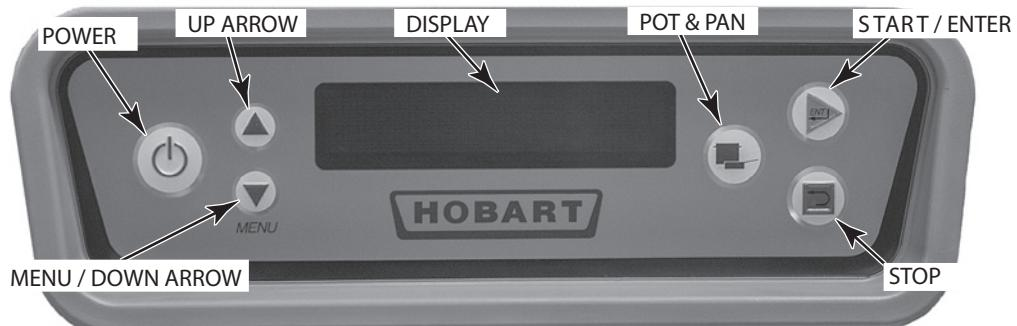

Fig. 26
The controls are mounted on top of the dishwasher. The Keypad and Display are mounted in front of the control box (Fig. 26).
Close all doors. To begin filling after the machine is ready, press the POWER key (Fig. 26).
5. Press the POWER key on the keypad (Fig. 26). Dishwasher will fill automatically (refer to Filling the Dishwasher, this page). After the tank has filled, the burner will ignite if heat is required. The ignition system includes a 15-second pre-purge period before ignition occurs.
6. If the dishwasher will not operate, press the POWER key on the keypad (Fig. 26) and turn the manual gas valve Off. Call your local Hobart service office or gas supplier.
After the machine has filled, start the pumps by pushing the START / ENTER key on the keypad (Fig. 26) or by inserting a rack into the machine.
The conveyor dwell feature, standard, allows the operator to stop the conveyor in order to wash heavily soiled dishes for a longer time. Press the DOWN ARROW located on the keypad (Fig. 26) until the '<' symbol is shown to the left of 'CONVEYOR DWELL'. When the dish rack reaches the wash zone, press the ENTER key on the keypad (Fig. 26) to momentarily stop the conveyor. To restart the conveyor, press the START/ENTER key on the keypad (Fig. 26).
If the rack jams or if the load becomes excessive, an overload mechanism shuts off the conveyor drive motor and 'Clear Conveyor Jam' displays. Open the doors and remove the jam. After the jam is cleared, close the doors and push the START / ENTER key on the keypad (Fig. 26) to restart the dishwasher.
All tank temperatures are shown on the Display (Fig. 26) when the machine is in operation. The Final Rinse temperature displays --- until a rack is in the rinse zone; then, the Final Rinse water temperature displays. After the ware exits the rinse zone, the Final Rinse temperature display returns to ---.
The pot and pan feature, standard on all CLeN models, allows the operator to wash heavily soiled pots and pans by indexing the racks thru two pre-set wash zones for a specified amount of time. The wash times can be adjusted in the Parameters Menu, refer to page 35. Push the POT and PAN key located on the keypad (Fig. 26) to enter the pot and pan mode. Insert rack into machine. The rack will index thru machine by the pre-set time. The machine will return to normal operation by pressing the POT and PAN key or the STOP key, or if the Auto Timer times out.
To conserve energy, if no rack enters the machine for a preset amount of time, the Auto-Timer counts down and the pumps and conveyor shut off. Tanks continue to heat, and tank temperatures display. To resume operation, insert a rack or press the START / ENTER key on the keypad (Fig. 26).
After a period of machine inactivity, the control initiates Energy Saver Mode (ESM): All warewasher components are turned off, and the display on the control dims, displaying 'Energy Saver Active / Press STOP to Exit'. To exit Energy Saver Mode, press the STOP key (Fig. 26). You may press the POWER key to completely turn the machine off. The period of machine inactivity prior to ESM can be set from 1 to 6 hours in the Parameters Menu; 2 hours is the factory setting. Refer to page 35.
1. Press the POWER key on the keypad to turn the machine Off (Fig. 26).